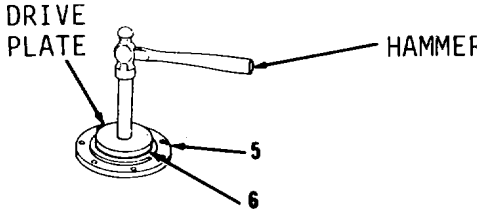

Figure 16-34.
- 11. Using clean grease, lubricate new seal (6, Figure 16-34) and position with lip facing down on cap (5).
- 12. Using suitable drive plates and hammer, install new seal (6) on cap (5).